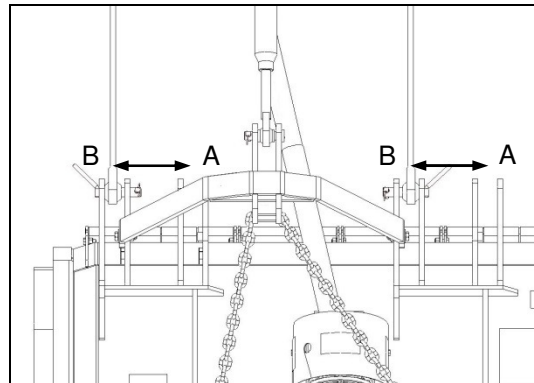

Fig. 5
- ✔ Attach the implement to the tractor hitch using the corresponding alternative hitch clevises (Fig. 5).